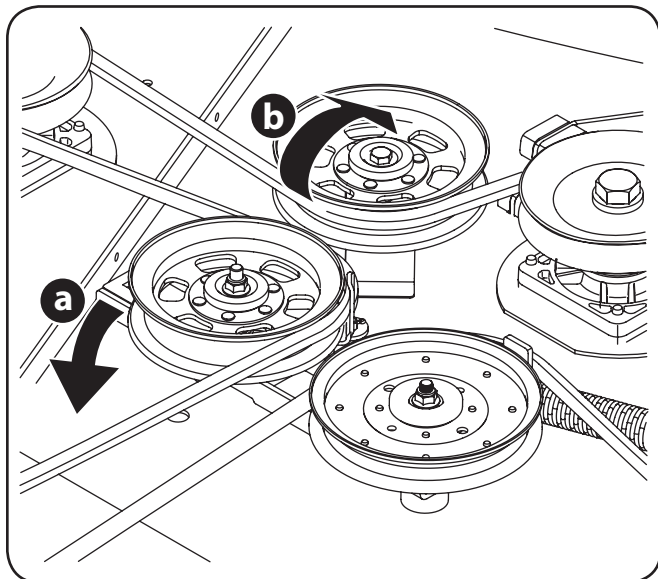

Figure 7-4
2. Working from the middle of the tractor, pivot the idler bracket and movable idler pulley rearward away from the backside of the "V" belt (a) just far enough to lift the belt up and over the idler pulley (b). See Figure 7-4.